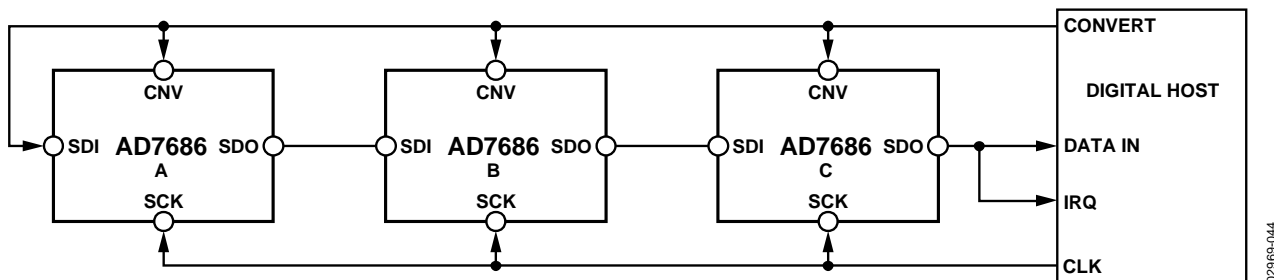
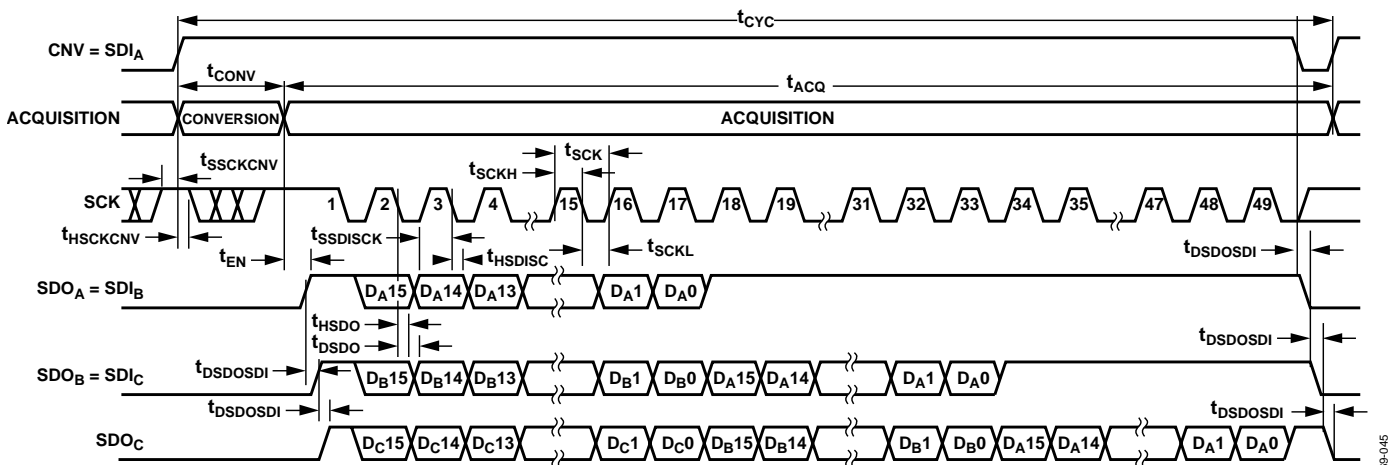

Figure 43. Chain Mode with Busy Indicator Connection Diagram
Figure 44. Chain Mode with Busy Indicator Serial Interface Timing
- In the chain mode, if SCK is high during the CNV rising edge (Figure 44).
This mode can be used to daisy-chain multiple AD7686s on a 3-wire serial interface while providing a busy indicator. This feature is useful for reducing component count and wiring connections, for example, in isolated multiconverter applications or for systems with a limited interfacing capacity. Data readback is analogous to clocking a shift register. A connection diagram example using three AD7686s is shown in Figure 43 and the corresponding timing is given in Figure 44.
When SDI and CNV are low, SDO is driven low. With SCK high, a rising edge on CNV initiates a conversion, selects the chain mode, and enables the busy indicator feature. In this mode, CNV is held high during the conversion phase and the subsequent data readback. When all ADCs in the chain have completed their conversions, the near end ADC (ADC C in Figure 43) SDO is driven high.